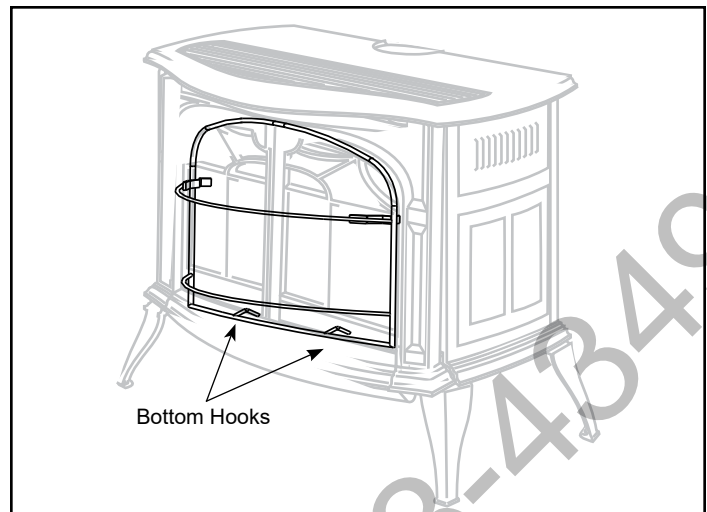

Figure 54 - Install safety barrier screen.
2. Place the two bottom hooks over the bottom edge of the stove opening Figure 54.